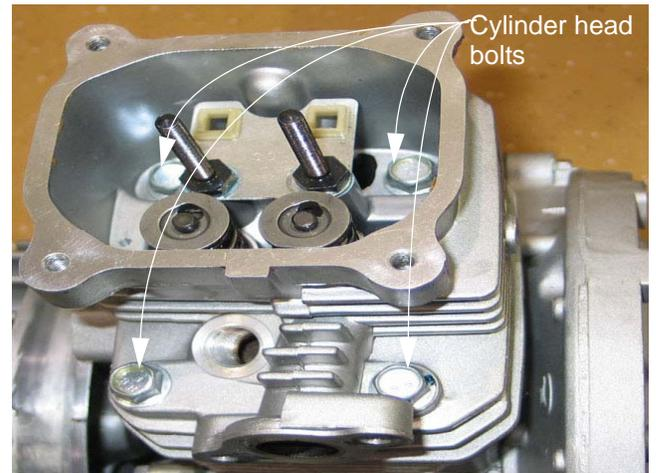

Figure 9.4
10. Remove the cylinder head bolts using a 14mm wrench. See Figure 9.4.